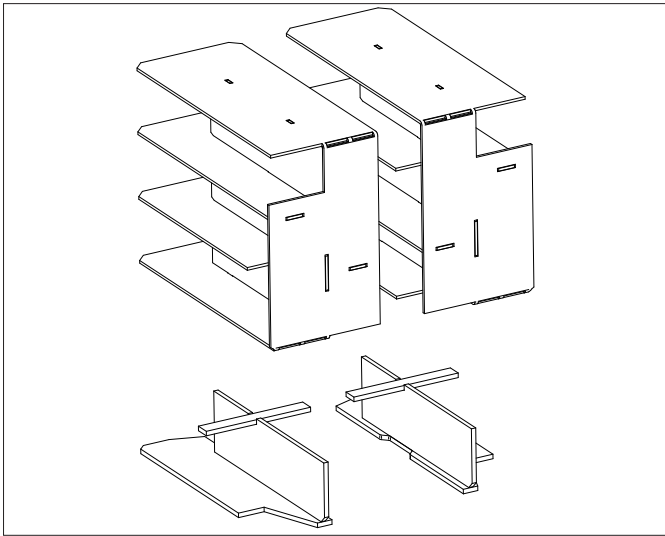

Figure 11-1: Baffles (15-26 model)
2. Remove the baffles as shown in Figures 11-1 to 11-3.
6. Replace the baffles, ensuring they are correctly fitted. Refer to Figures 11-1 to 11-3, as appropriate.